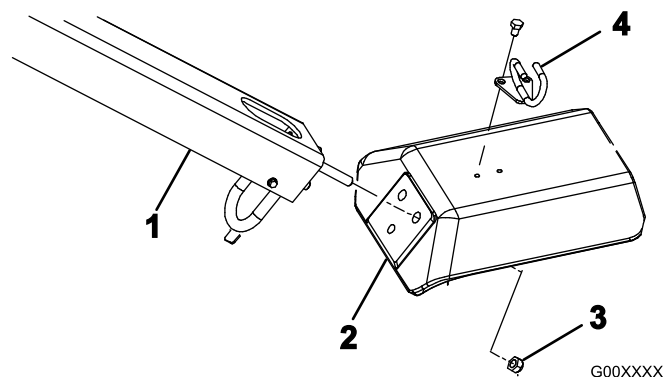

Figure 4
2. Insert the handle mounting studs into the holes in the fork (Figure 4).
3. Secure handle studs to fork with 3 locknuts (1/2 inch) (Figure 4)
5. Mount the cable guide to the top of the fork with 2 bolts (5/16 x 1/2 inch) (Figure 4).